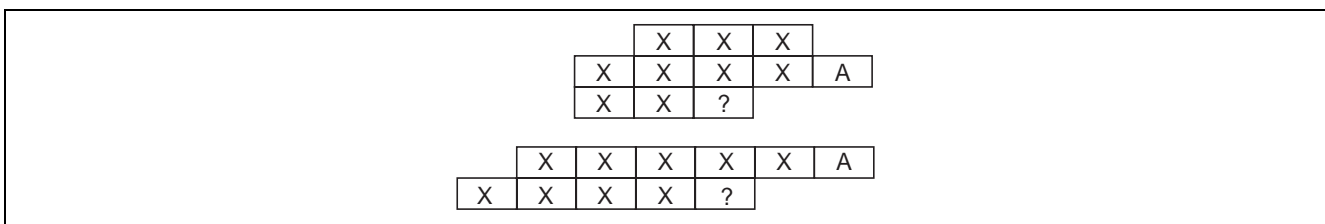

Figure 1 Template (X, A) (Upper: 3 lines, Lower: 2 lines)
(1) Coding algorithm
(2) Context
- 2- or 3-line of 10-pixel template (see figure 1)